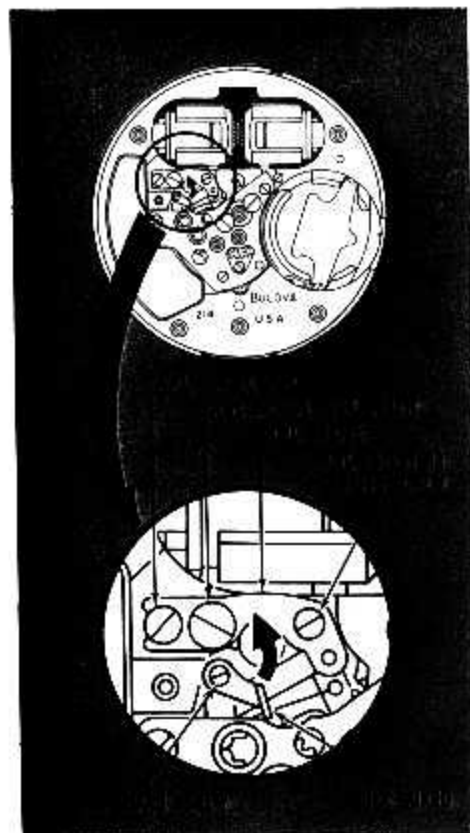

Fig. 9
1. Loosen index guard screw, and turn index guard away from index wheel. Do not remove, just turn out of the way, being careful not to damage index and pawl fingers, which run through the guard. Tighten screw (see Fig. 9).